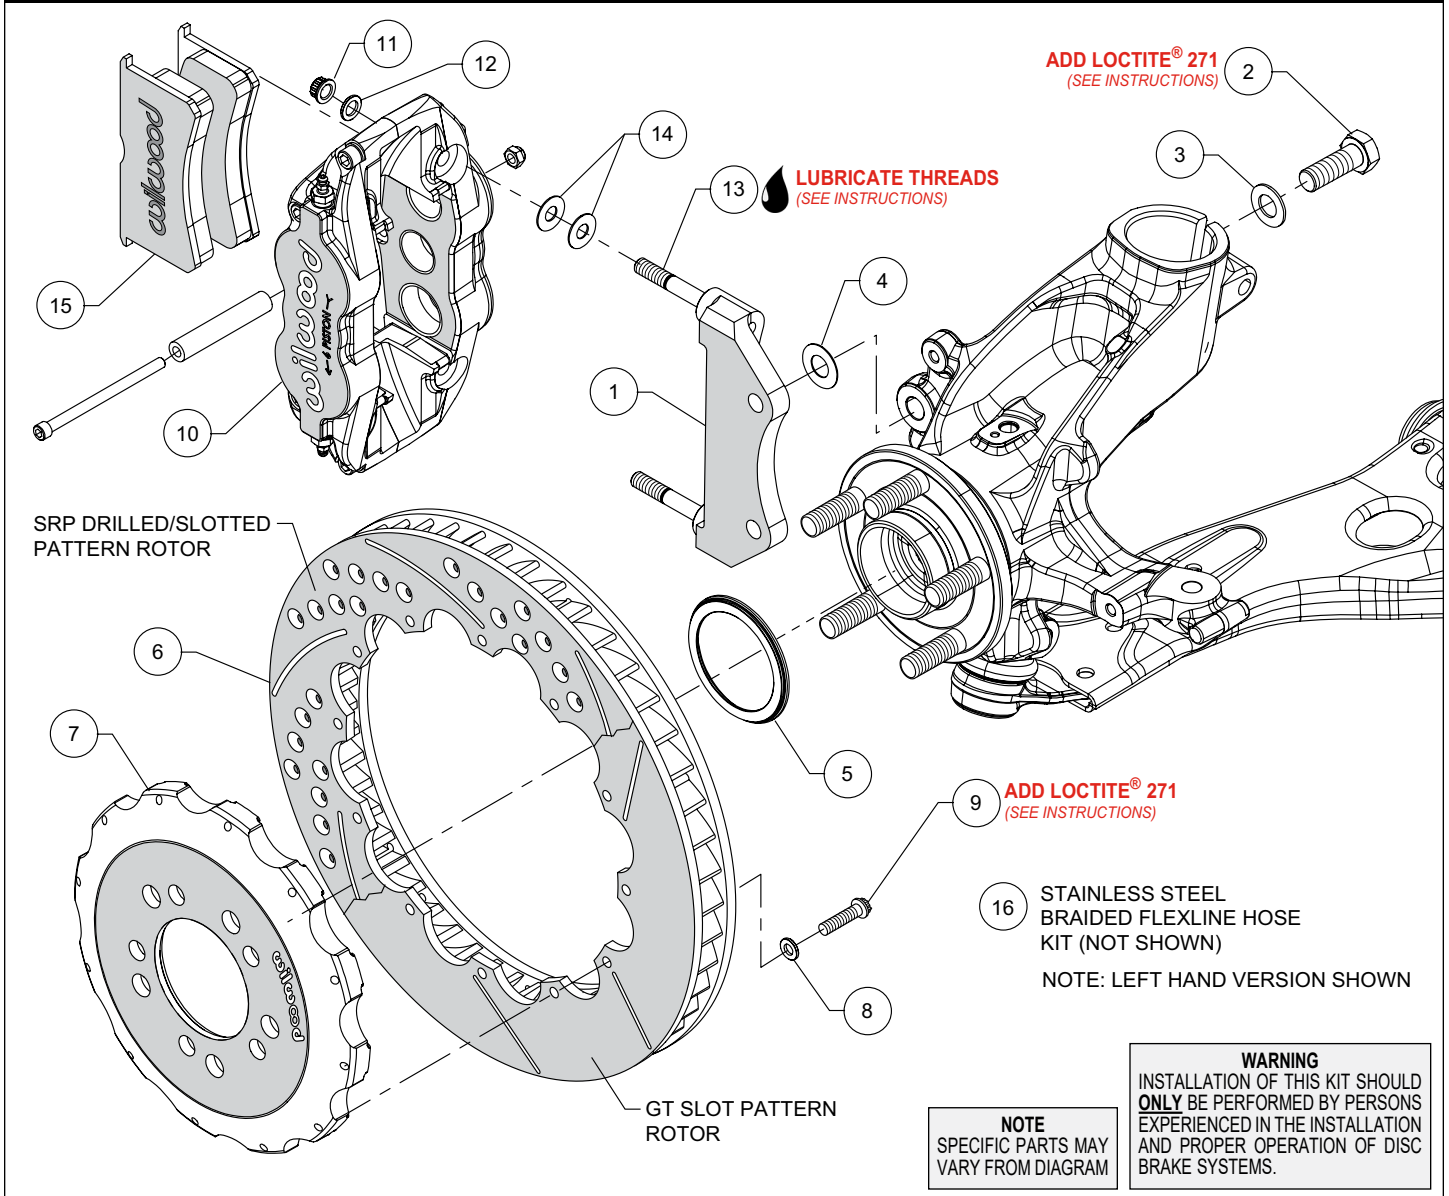
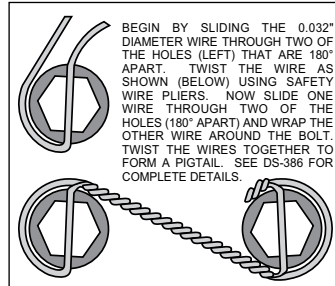

Figure 1. Typical Installation Configuration
Figure 3. Safety Wire Diagram
NOTE: Numbers in parenthesis refer to the parts list and Figure 1 on the preceding pages.
- The caliper mount bracket (1) should initially be installed with clean, dry threads on the mounting bolts. Orient the bracket as shown in Figure 1 and Photo 1, and install using washers (3) and bolts (2). Initially place one .029 thick shim (4) on each bolt between the bracket and upright, Figure 1. Temporarily tighten the mounting bolts. **NOTE:** *The bracket must fit squarely against the mount bosses on the upright.* Inspect for interference from casting irregularities, machining ridges, burrs, etc. Later, after the caliper alignment has been checked, the mount bolts will be secured using red *Loctite*® 271.
- Orient the rotor (6) and the hat (7) as shown in Figure 1 and Photo 2. Attach rotor to hat using bolts (9) and washers (8). Apply red *Loctite*® 271 to the bolt threads and torque to 155 in-lb using a criss-cross pattern. For an added measure of security, the bolts may be safety wired using standard 0.032 inch diameter stainless steel safety wire as shown in Figure 3. Please refer to Wilwood's data sheet DS-386 (available at www.wilwood.com/Pdf/DataSheets/ds386.pdf) for complete safety wire installation instructions.
- Slide the rotor registration adapter (5) onto the axle register on the axle hub with the smaller O.D. facing outward, Photo 3. Slide the hat/rotor assembly onto the axle hub. **NOTE:** *The hat must fit flush against the axle hub flange or excessive rotor run out may result.* Install three lug nuts (finger tight) to keep the hat/rotor assembly in place while continuing with the installation.
- NOTE:** *This kit contains distinct right and left hand calipers that must be mounted in a specific direction, as described below.* Lubricate the caliper mounting studs (13) with lightweight oil. Initially place two .035" thick shims (14) on each stud as shown in Figure 1 and Photo 4. Mount the caliper (10) onto the bracket (1) using lock nuts (11) and washers (12), Figure 1. Ensure that the caliper is mounted so that the largest pistons are at the rotor exit end of the caliper, in relation to the direction of rotor rotation. Temporarily tighten the lock nuts and view the rotor through the top opening of the caliper. The rotor should be centered in the caliper, Photo 5. If not, adjust by adding or subtracting shims (4) between the bracket and the upright. Always use the same amount of shims on each of the two mounting bolts. Once the caliper alignment is correct, remove the bracket mounting bolts (2) one at a time, apply red *Loctite*® 271 to the threads, and torque to 60 ft-lb.